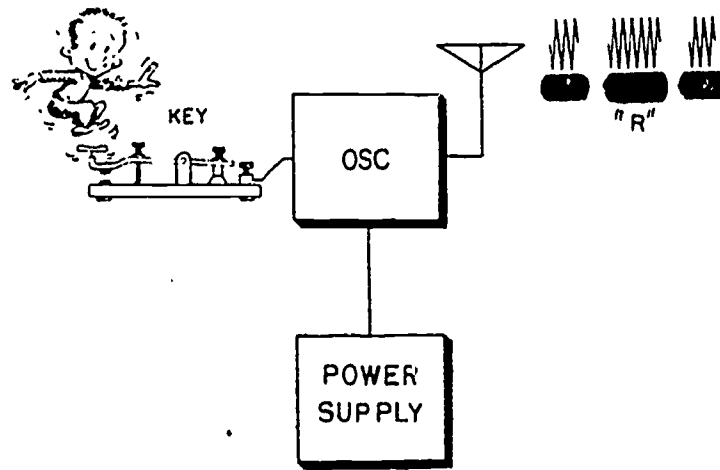

Figure 2-6. A simple CW transmitter.
- (1) The simplest radiotelegraph, or CW, transmitter is shown in figure 2-6. A key to turn the carrier on and off is connected to the oscillator. A power supply to furnish power to the oscillator, and an antenna to radiate the carrier complete the transmitter.